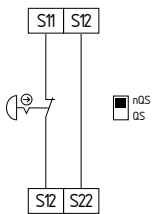

Fig. 7
**Single-channel emergency stop circuit with command devices to ISO 13850 and IEC 60947-5-5 (Fig. 7)**